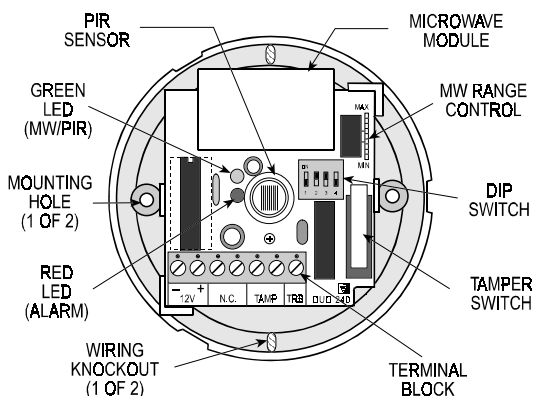

Figure 3. Component Layout
B. Press the base against the ceiling in the selected location. Mark the two points for drilling through the mounting holes (see Fig. 3).
The two LEDs (Fig. 3), which are hidden behind the lens when the cover is installed, are visible through the lens when illuminated. They are used to signal various alarm and trouble messages as shown in Table 1 below: